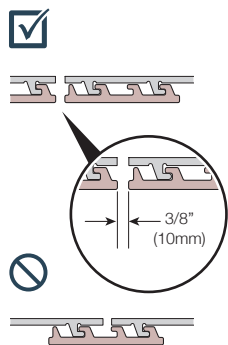

FIG. V5
4. Spacing between SLAT profiles in the same plane must be  $\frac{3}{8}$ " (10mm) to maintain a  $\frac{3}{8}$ " open joint size between panels (FIG. V5). Slats must also be attached to the same SLAT Profile.